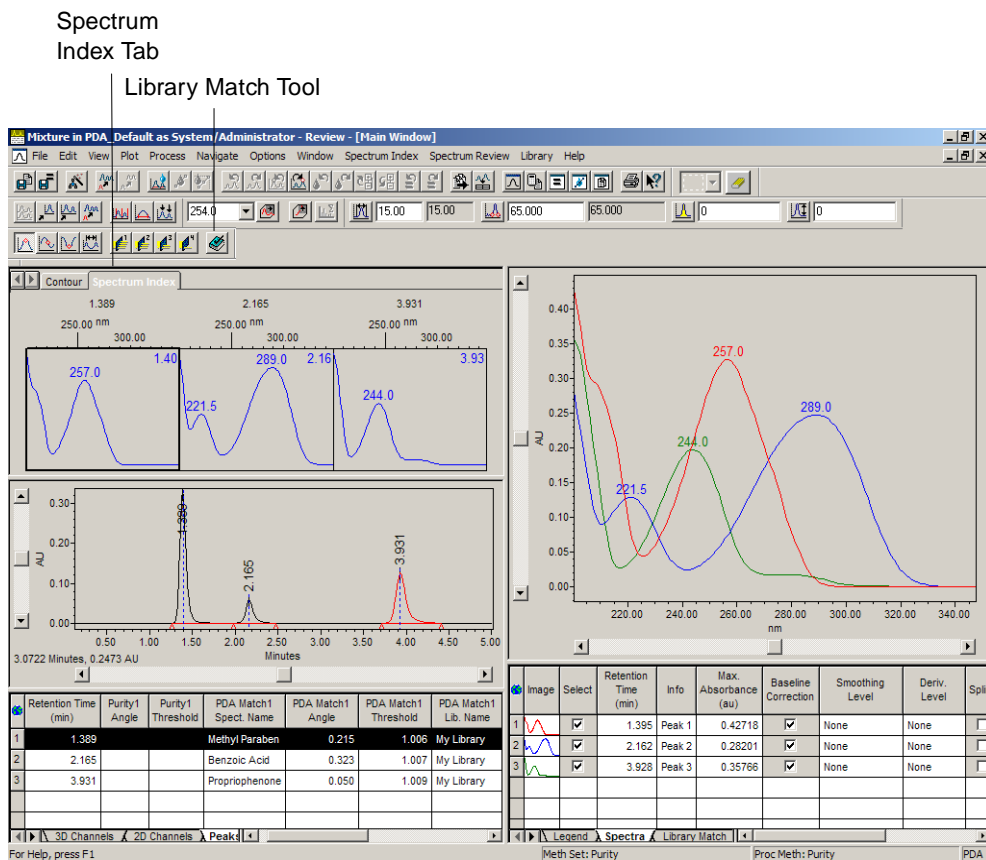

Figure 4-30 Spectrum Index with Library Matching
1. Click the **Spectrum Index** tab to view Spectrum Index in the Review Main window (Figure 4-30).